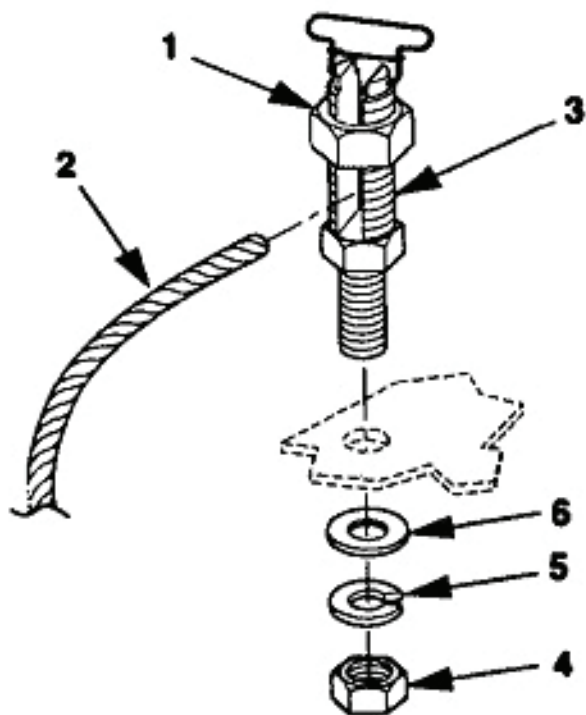

Figure 4-30. PU-801A Ground Stud Replacement
1. Loosen nut (1, figure 4-30) and remove ground wire (2) from ground stud (3).
2. Remove nut (4), lock washer (5), flat washer (6), and ground stud (3). Discard lock washer (5).